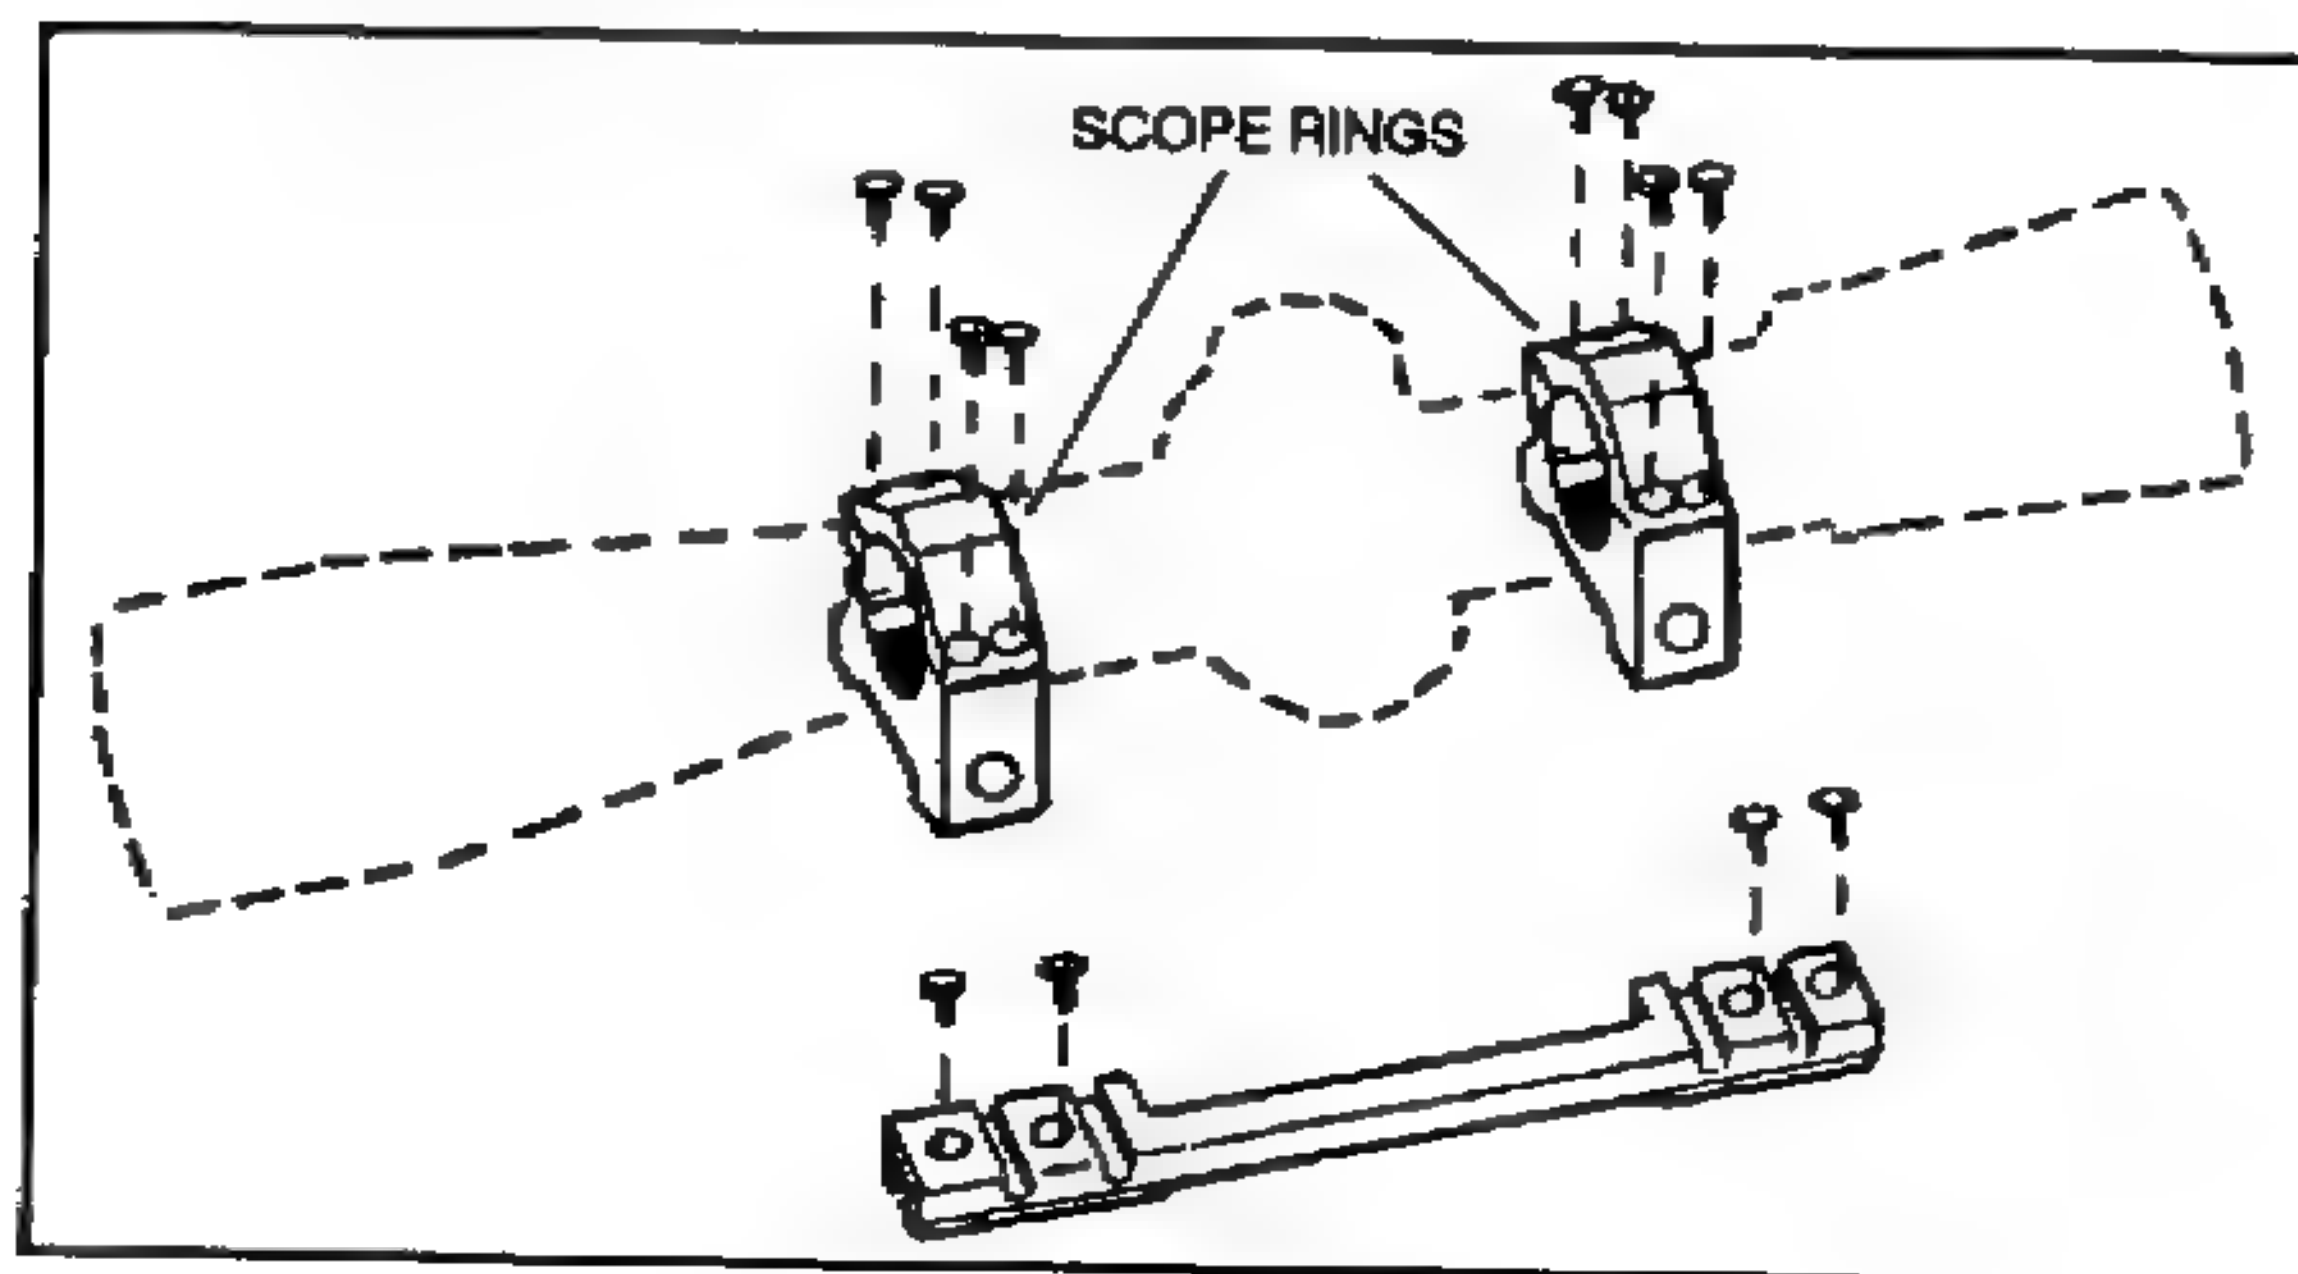

Figure 2-20. Scope mount.
b. **M3A Scope Mount.** The M3A scope mount has a baseplate with four screws; a pair of scope rings with eight ring screws, each with an upper and lower ring half with eight ring screws and two ring mounting bolts with nuts (Figure 2-20). The baseplate is mounted to the rifle by screwing the four baseplate screws through the plate and into the top of the receiver. The screws must not protrude into the receiver and interrupt the functioning of the bolt. After the baseplate is mounted, the scope rings are mounted.